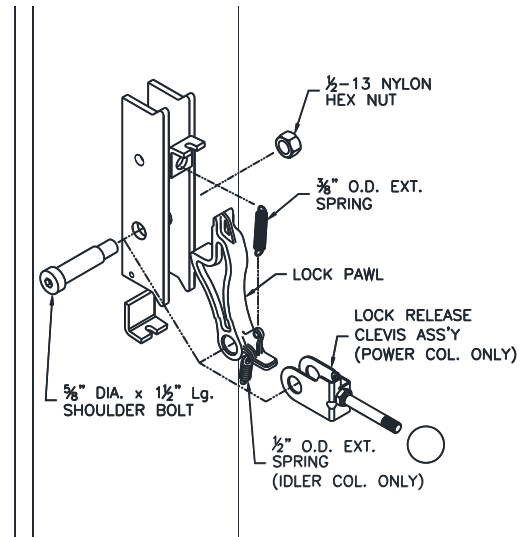

Fig. 4 – Locking Pawl Assembly
- 8) Install Power Column locking pawl and lock release clevis with 5/8" diameter x 1 1/2" lg shoulder bolt and 1/2"-13 nylon lock nut, Fig. 4. Attach 3/8" O.D. extension spring to upper hole in locking pawl and other end to hole in bracket welded to column.
- 9) Attach 1/2" O.D. extension spring to hole located on bottom side of Idler Column lock pawl and install using 5/8" shoulder bolt and lock nut, Fig 4. Attach 3/8" O.D. spring the same as Power side.